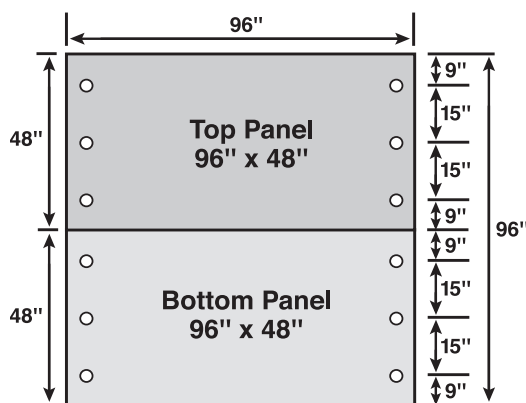

Fig. 2 Secure plywood panel with PlyFASTner Plus[®] brackets.
6. Hang the plywood panel over the lags. Position PlyFASTner Plus[®] bracket over the lag heads and slide each of the four PlyFASTner Plus[®] brackets into place (Fig. 2 & 3). Adjust the depth of the lag with the nut driver, if needed so that the system is tight and there is approximately 1/8" space between the lag head and the PlyFASTner Plus[®] brackets. (Fig. 4)